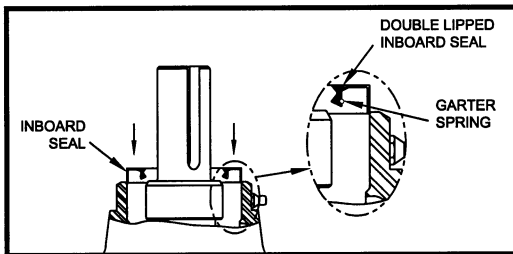

Figure 6.2.3.1 Orientation of Inboard Seal for Installation
3. Place the ring on the seal. **Reference Figure 6.2.3.2.**